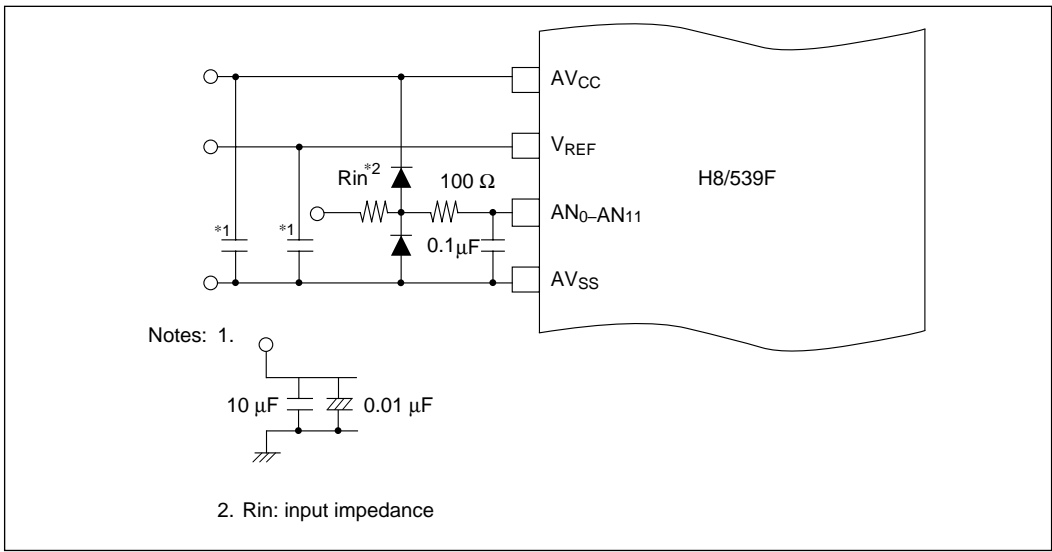

Figure 15-9 Example of Analog Input Protection Circuit
(5) Note on Noise: To prevent damage from surges and other abnormal voltages at the analog input pins (AN_0 to AN_{11}) and analog reference voltage pin (V_{REF}), connect a protection circuit like the one in figure 15-9 between AV_{CC} and AV_{SS} . The bypass capacitors connected to AV_{CC} and V_{REF} and the filter capacitors connected to AN_0 to AN_{11} must be connected to AV_{SS} . If filter capacitors like those in figure 15-9 are connected, the voltage values input to the analog input pins (AN_0 to AN_{11}) will be smoothed, which may give rise to error. Also, when A/D conversion is frequently performed with the A/D converter in scan mode, etc., if the current charged or discharged by the analog input capacitance of the H8/539F exceeds the current input via the input impedance R_{in} , an error will arise in the filter capacitor voltage. The circuit constants should therefore be selected carefully.